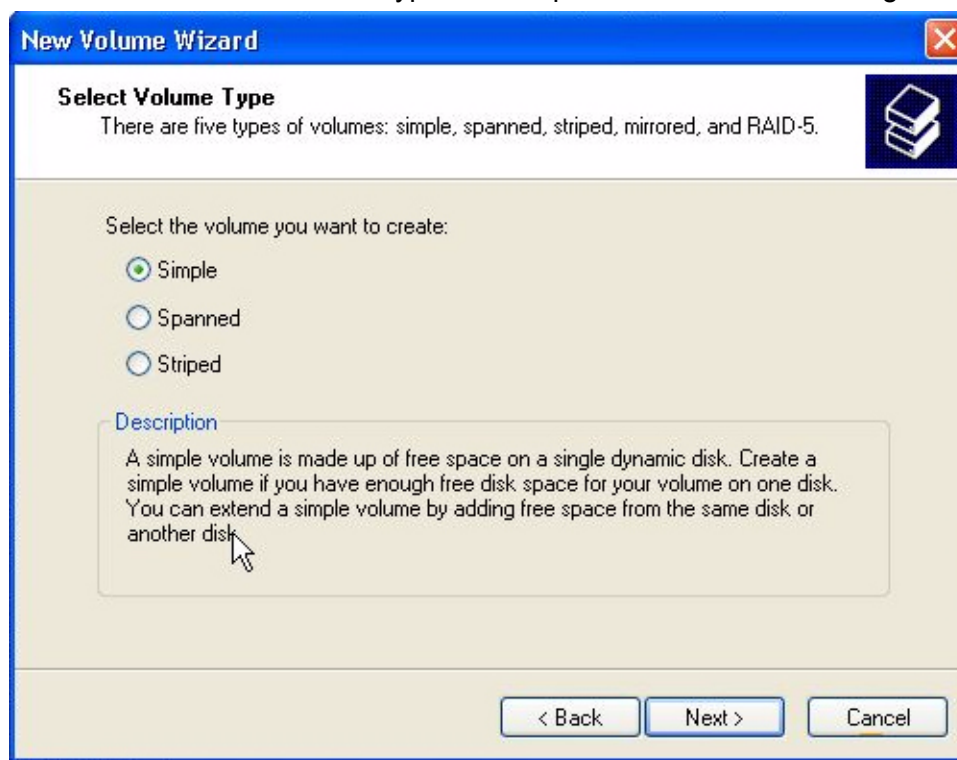

FIGURE 6-23. New Volume Wizard - Select Volume Type Screen.
1. When the *New Volume Wizard - Select Volume Type* screen appears, set the “Volume Type” to “Simple”. Click **NEXT >**. See Figure 6-23.